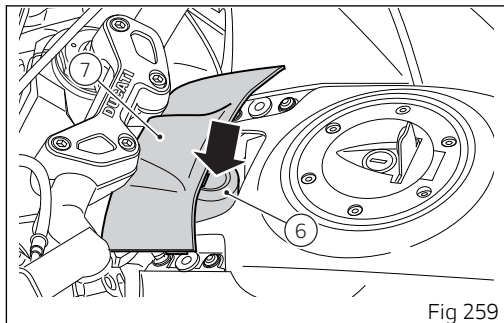
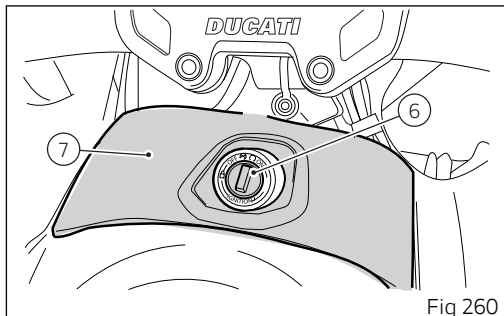
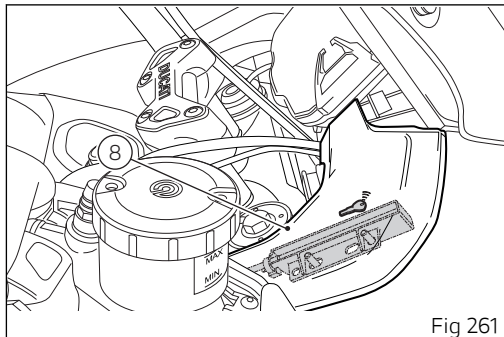

Fig 259
Fig 260
Fig 261
(Fig 259) indicates the position of the Hands Free unit (6), with protection lid (7) and (Fig 260) indicates the position of the Hands Free unit (6) for the US version, while (Fig 261) indicates the position of the antenna (8).